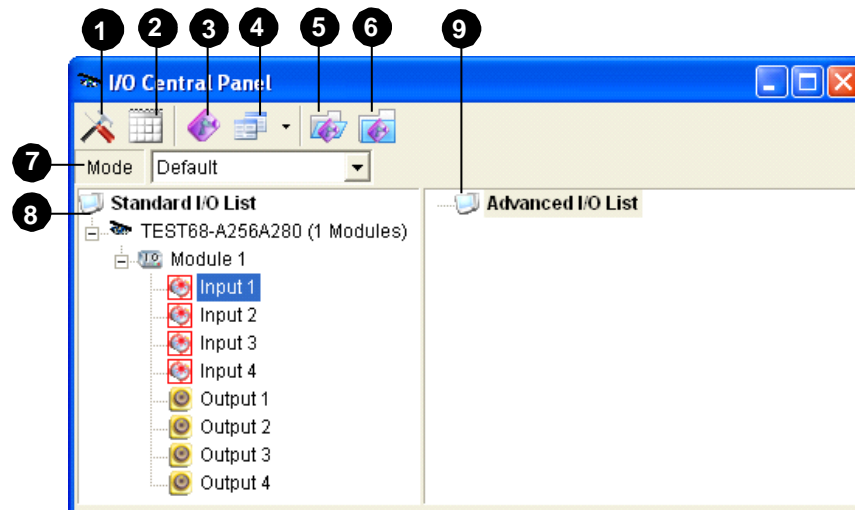

Figure 6-17
[Display Setting] You can define the nature of I/O devices by colors. Note that the setting only affects the **Detail** style of the Advanced I/O List (No. 4, Figure 6-17).
1. Click the Mode drop-down list (No. 7, Figure 6-17), and select **More Edit**. This dialog box appears.
- ⑩ **Name:** Type a name for the schedule.
- ⑩ **Mode:** Select a mode from the drop-down list.
- ⑩ **Time:** Define a time period you want the mode to run.
- ⑩ **Days:** Check the day(s) you want the mode to run.
4. To start the mode schedule, click the **Mode Schedule** button (No. 2, Figure 6-17), and then select **Mode Schedule Start**.
- ☒ To open the Quick Link window, click the **Toggle Quick Link** button. (No. 3, Figure 6-17).
1. To switch to the Icon style, click the **Advanced I/O List Style** button (No. 4, Figure 6-17) and then select **Icon**.